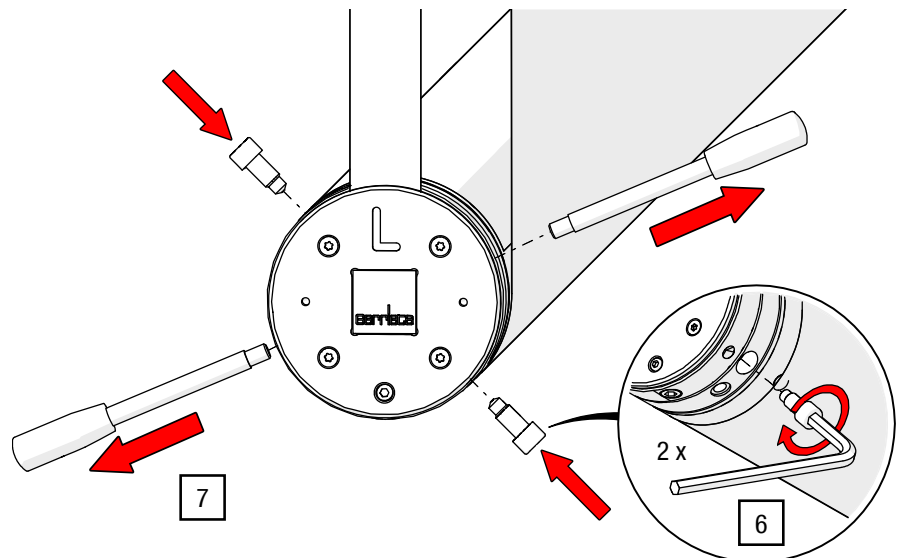

Fig. 33: Fix the locking screws and release the clamping lever
6. Turn the locking screws hand-tight into the intended positions using the Allen key AF 10 (see Fig. 33).
7. Loosen the clamping levers (see Fig. 33).